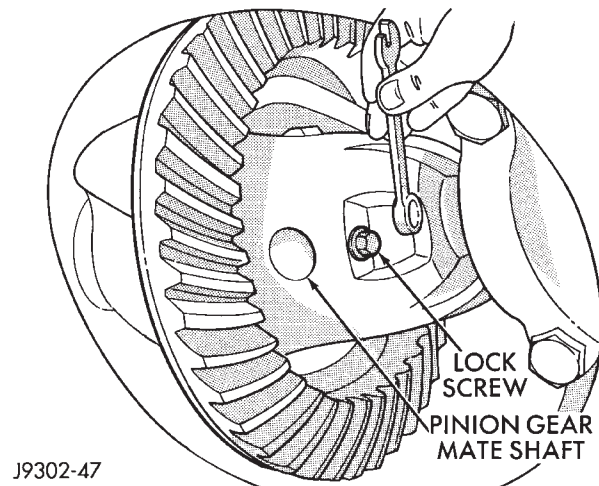

Fig. 9 Mate Shaft Lock Screw
- (1) Raise and support vehicle. Ensure that the transmission is in neutral.
- (2) Remove wheel and tire assembly.
- (3) Remove brake drum. Refer to Group 5, Brakes, for proper procedure.
- (4) Clean all foreign material from housing cover area.
- (5) Loosen housing cover bolts. Drain lubricant from the housing and axle shaft tubes. Remove housing cover.
- (6) Rotate differential case so that pinion mate gear shaft lock screw is accessible. Remove lock screw and pinion mate gear shaft from differential case (Fig. 9).